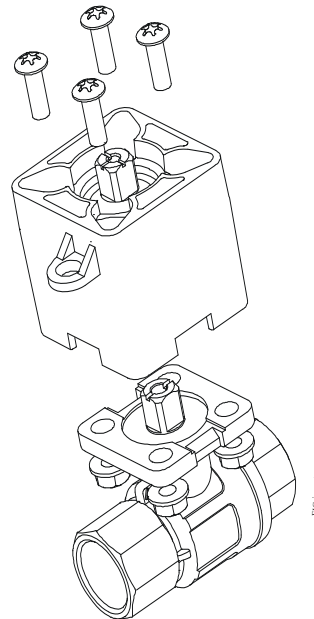

Figure 18: Installing the barrier
3. Mount the thermal barrier onto the valve using the four included M5x16 mm machine screws and four M5 flange nuts. Tighten the screws to a recommended torque of 21 to 25 lb·in. (2.4 to 2.8 N·m) (Figure 18).